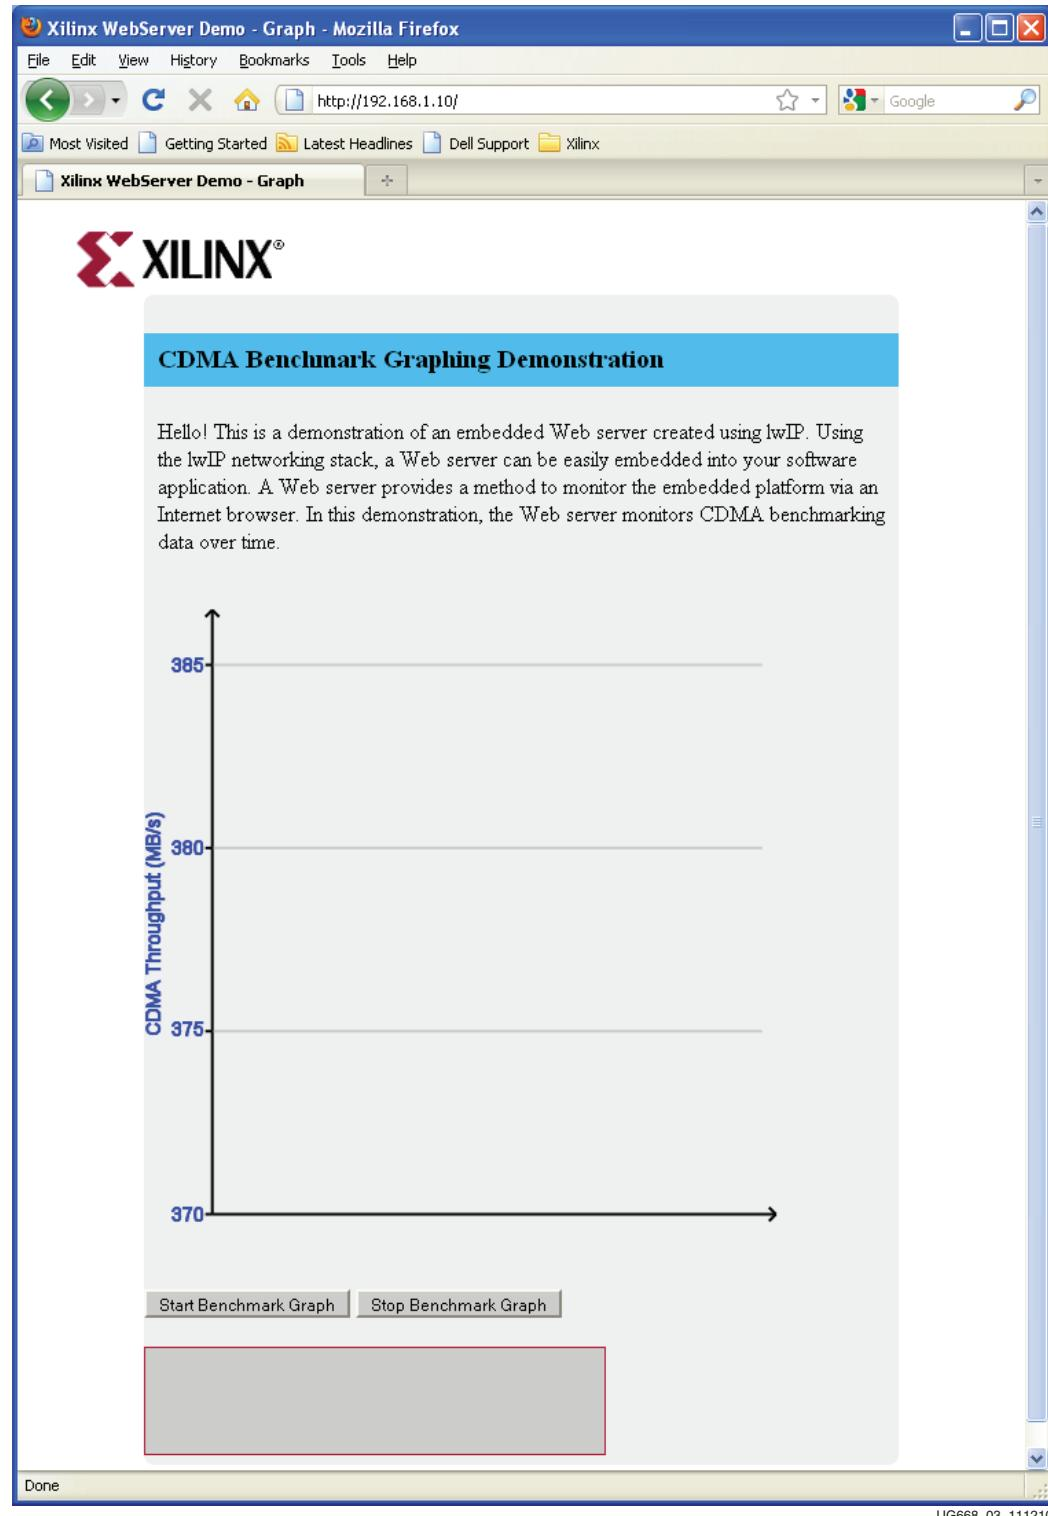

Figure 3: Initial Benchmarking Demonstration Web Page
2. Open a web browser on the host computer and set the URL to **192.168.1.10**. The web page shown in Figure 3 should be displayed. The Web page uses Javascript, so the browser must have Javascript enabled